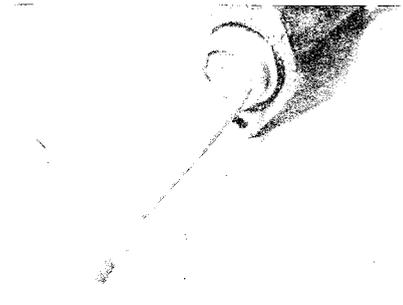

Fig. 11-6 Removing snap ring
4. Fit the guide pin, as shown in Fig. 11-6, into the stop bolt hole and insert the piston assembly and return spring into the cylinder. With a screwdriver push the piston as far as it will go, remove the guide pin, and install the stop bolt and washer.